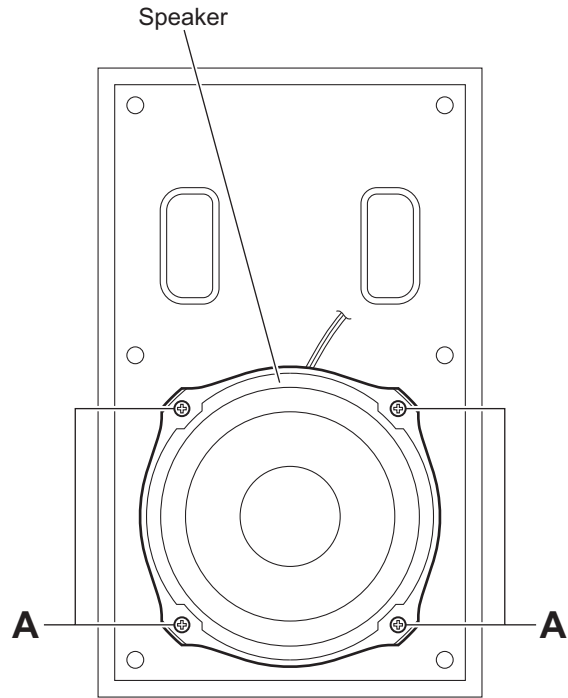

Fig.4
3.4.2 Removing the speaker (See Figs.4 and 5)
- From the front side of the speaker main body, remove the four screws **A** attaching the speaker. (See Fig.4.)